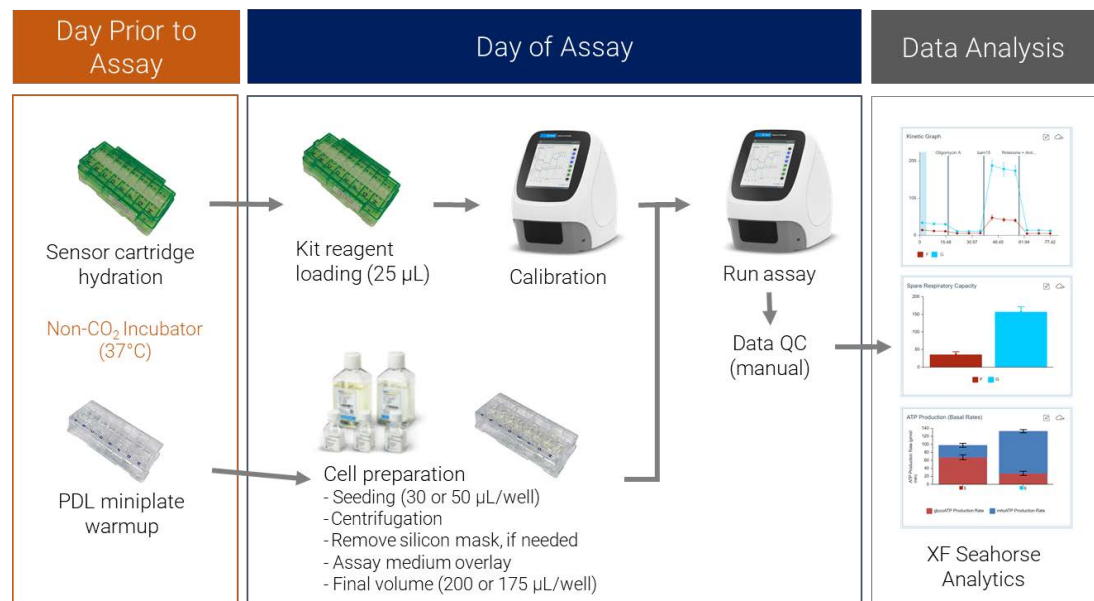

Figure 5. Agilent Seahorse XF T Cell Metabolic Profiling Kit with the Agilent Seahorse XF HS Mini and XFp Analyzer.
- 10 Fill the moats around the wells (both sides) with warm water or PBS, using an eight-channel pipettor set to 200 μL , as demonstrated in **Figure 5**.